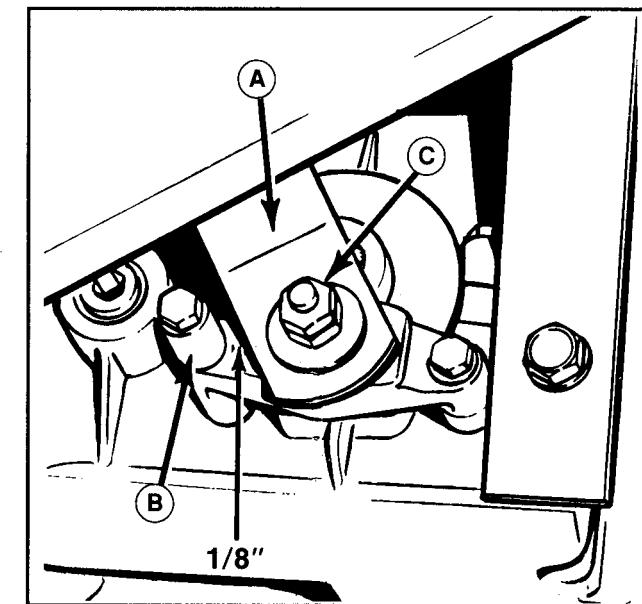

Figure 37. Parking Brake Adjustment (Gear Model)
- b. Push the cam lever (A, figure 37) forward (toward front of tractor) to take out any slack. The gap between lever (A) and stop (B) should be $1/8$ inch (0.3 mm). Use a feeler gauge to measure. If not $1/8$ inch, perform step "c".
- c. Loosen or tighten the adjustment nut (C) to achieve correct dimension. Some models are equipped with two nuts. If so, loosen the outer nut, adjust the inner nut as necessary, then tighten the outer nut.